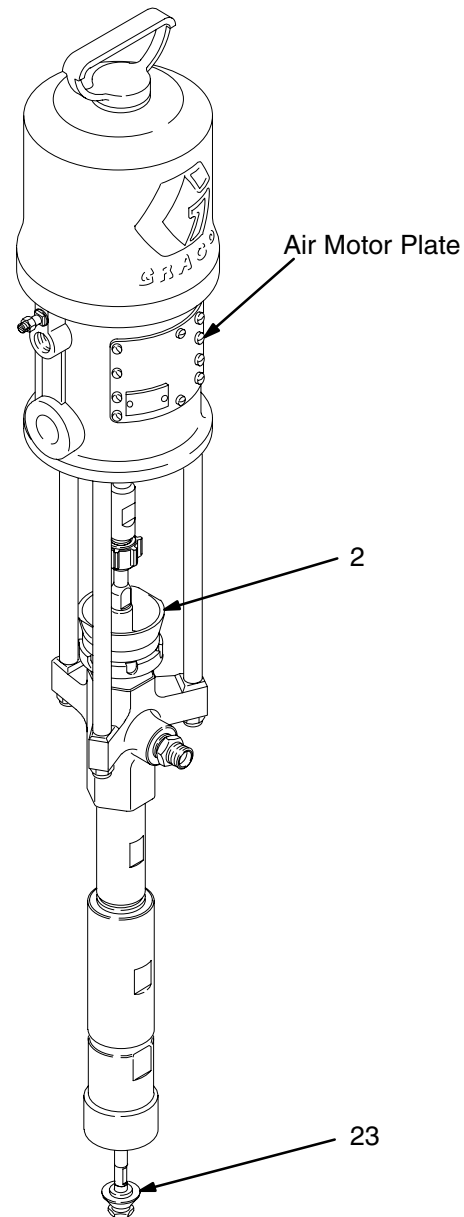

Fig. 3
Before starting, fill the packing nut (2) 1/3 full with Graco Throat Seal Liquid (TSL) or compatible solvent. See Fig. 3. Adjust the packing nut weekly so it is just snug; do not overtighten.
See Fig. 3. The priming piston (23) and the air motor piston (located behind the air motor plates) move during operation.